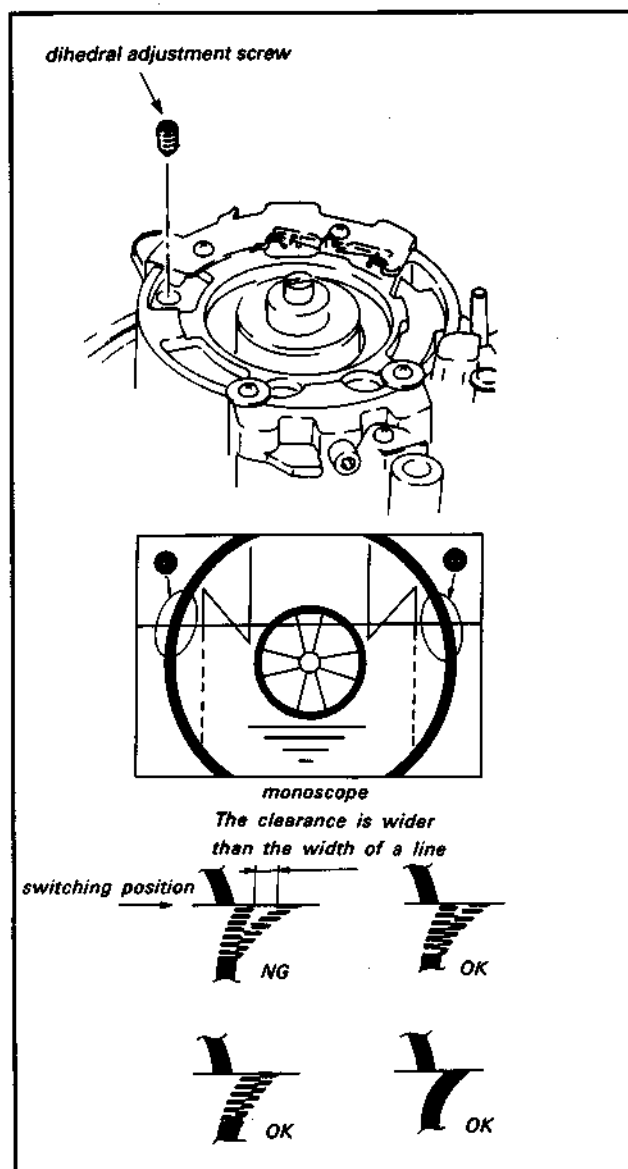

Fig. 7-16. Video head dihedral adjustment
- 1) As shown in Fig. 7-16, screw two dihedral angle adjustment screws (Jig Ref. No. J-10) into the adjustment screw holes on the side on which the red lead wires from the video head are connected, until the top of the screw is level with the video head disk. (If they are not screwed in far enough, the video head disk will not turn past the point where the top of the adjustment screw strikes the upper drum. Conversely, if it is screwed in too far, the head base will be moved, throwing the video head dihedral angle way off.)